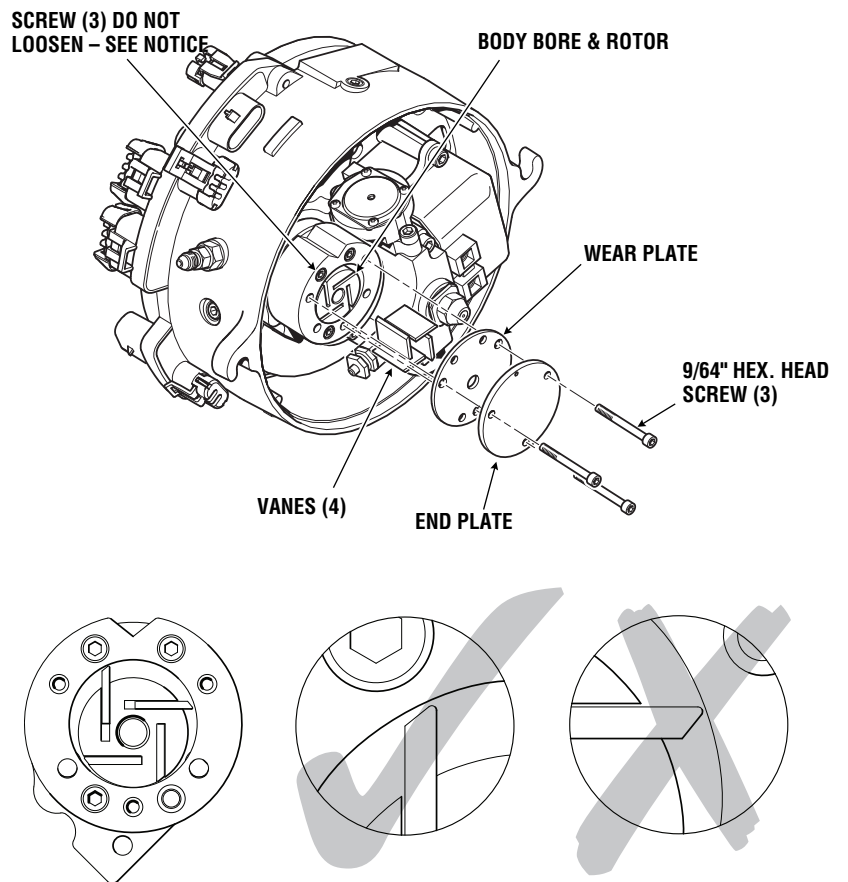

Figure 5-9: Compressor Components.
DO NOT loosen the three screws holding the compressor body (Figure 5-9), as it requires special tools to install the compressor body back in proper position.
The three holes in the plates are not equally spaced. Ensure their correct alignment to the compressor body (Figure 5-9).
- a) Remove three screws holding the compressor End Plate using a 9/64 hexagon key (refer to Figure 5-9).
- b) Remove the End Plate and the graphite Wear Plate (located behind the aluminum End plate) - refer to Figure 5-9. Avoid damage to the end plate.
- e) Spray body bore and rotor with non-petroleum based flushing solvent (refer to Figure 5-9). **DO NOT USE BRAKE CLEAN.**